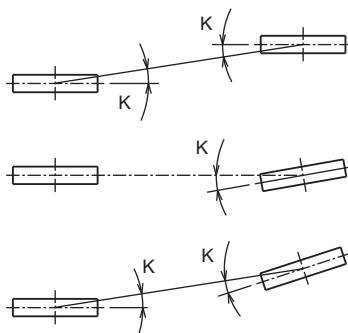

Fig. 3-1 Pulley's degree of parallelism
- 1) The fan pulley and the motor pulley must be aligned to meet the criteria shown in Fig. 3-1 and Table 1.